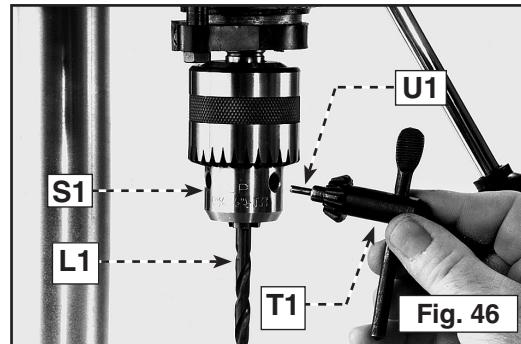

Fig. 46
1. Insert the smooth end of drill bit (L1) Fig. 46 in the chuck (S1) as far as it will go, and then back the bit out 1/16" (1.6 mm) (or up to the flutes for small bits).
2. Center the drill bit (L1) Fig. 46 in the chuck (S1) before tightening the chuck with the key (T1).
3. Turn the chuck key (T1) Fig. 46 clockwise to tighten
5. Remove the chuck key (T1) Fig. 46 from the chuck before starting the drill press. The chuck key is equipped with a self-ejecting pin (U1) which helps minimize the potential for the key to be left in the chuck.